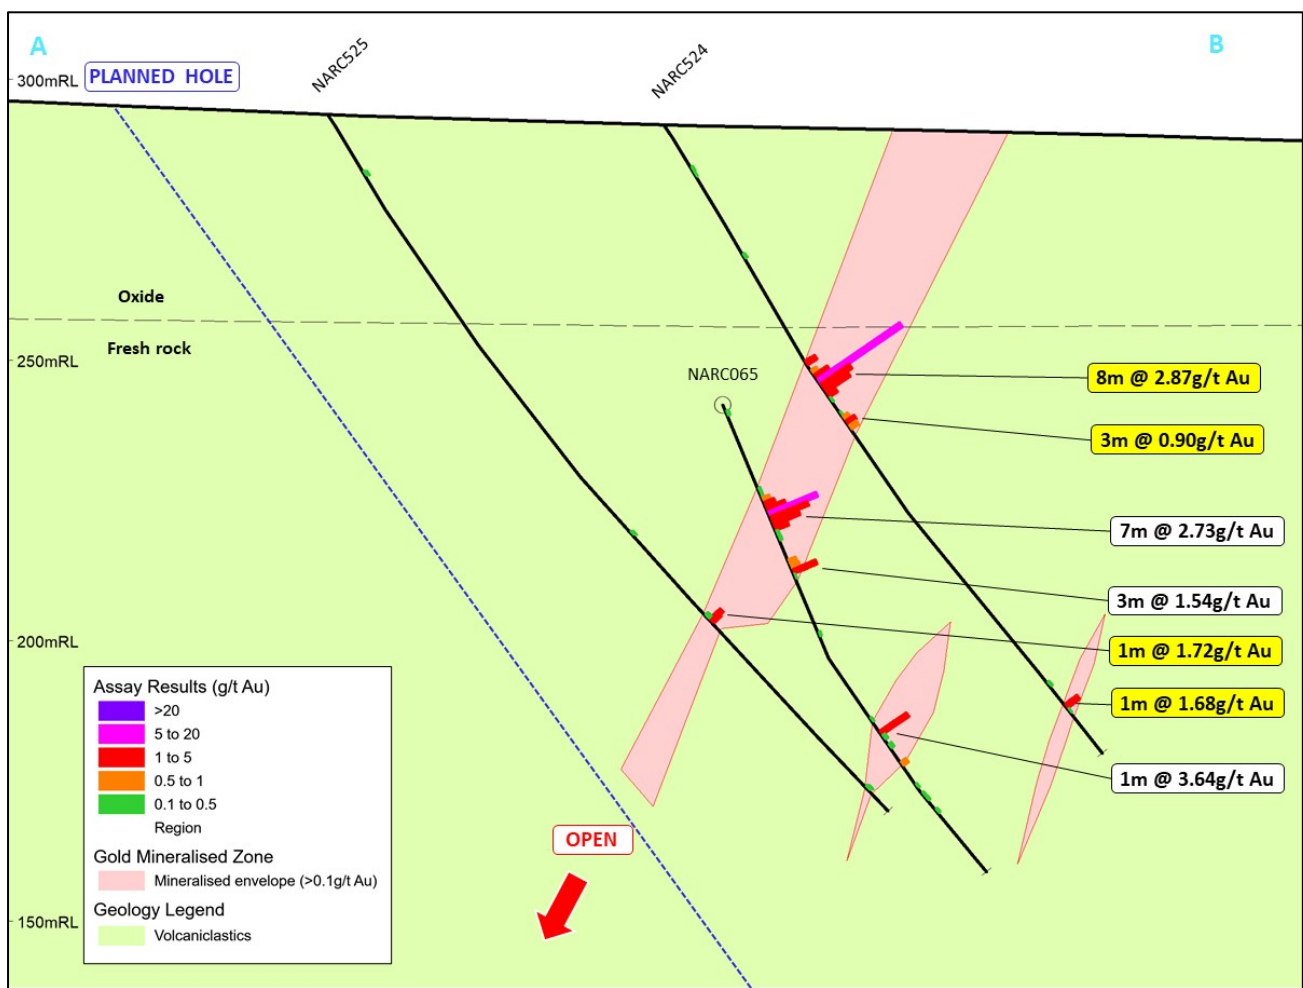

**Figure 2: Gogbala Prospect - High-priority 2km target subject to Phase 1 of 10,000m drill program - select previous gold intercepts on IP geophysics**
**Figure 1: Select new (yellow) and previous (white) gold intercepts on southern portion of 2km-long high-priority target area at Gogbala (see location of enlarged area on Figure 2)**